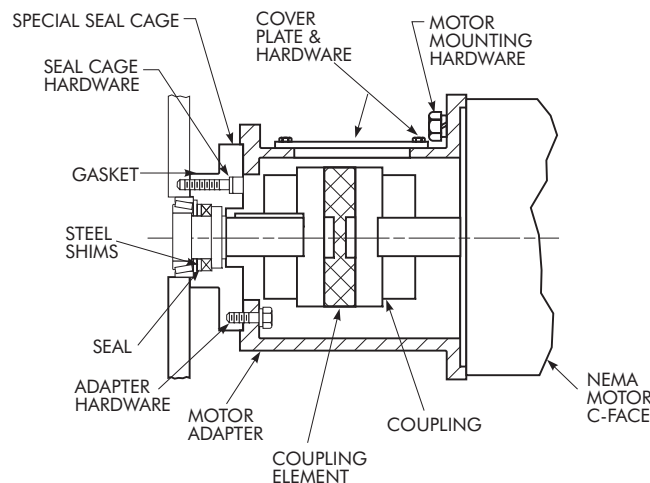

Figure 1 — NEMA Motor C-Face Adapter
2. Assembly — Figures 1 and 2.
- C. For all drives except the 2080, subtract the specified axial float (.004” - .006” for all HS shafts with motor adapters) from the measured value and add this amount of steel shims to obtain the specified axial shaft float (see Figs. 1 & 2 for steel shim location). For the 2080, either add or subtract shim gaskets to the gasket pack to provide .004” to .006” axial float.